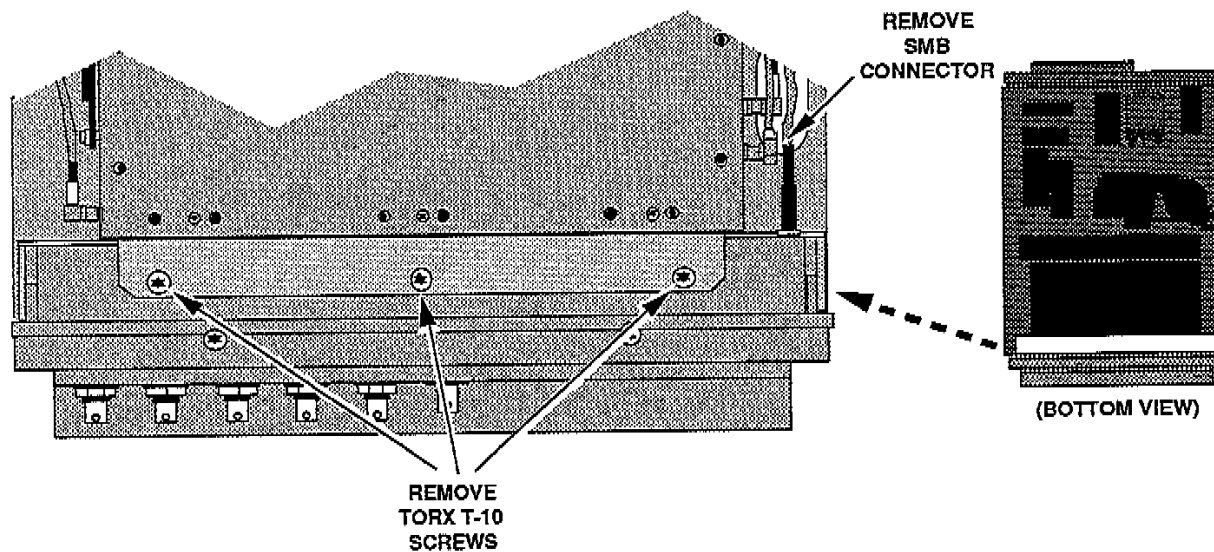

Figure 4-26. Power Supply removal.
1. Remove the three Torx T-10 screws attaching the Power Supply to the bottom rear chassis bracket as per Figure 4-26.
4. Disconnect the SMB connector as illustrated in Figure 4-26 and remove the Power Supply assembly.